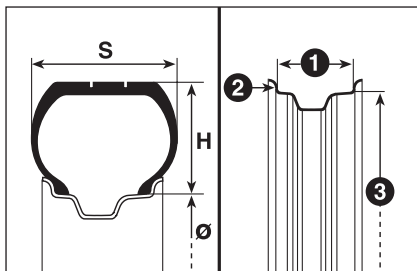

fig. 5
UNDERSTANDING TYRE MARKING fig. 5
MARKING fig. 5****Example: 6J x 15 H2 ET 31.5****6** = rim width in inches (1).**J** = rim drop center outline (side projection where the tyre bead rests) (2).**15** = rim nominal diameter in inches (corresponds to diameter of the tyre to be mounted) (3 = \emptyset).**H2** = “hump” shape and number (relief on the circumference holding the Tubeless tyre bead on the rim).**ET 31.5** = wheel camber angle (distance between the disc/rim supporting plane and the wheel rim centre line).